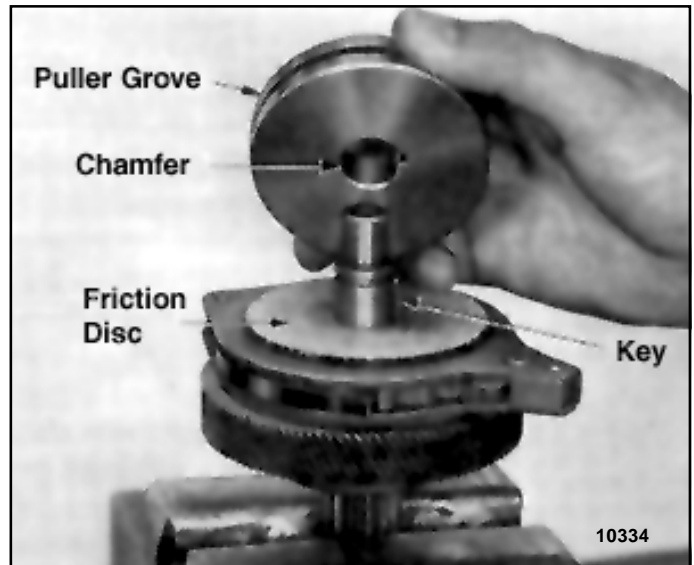

Figure 5-7. View Showing Load Brake Flange Removed
(2) Using a puller tool, remove brake flange from shaft. A groove is provided around outer diameter for this purpose. See Figure 5-7. Remove key from shaft and lift off 2 friction discs, and the pawl and ratchet assembly (Figure 5-8).
- (3) When installing brake flange, position it with chamfer facing friction disc (Figure 5-7).